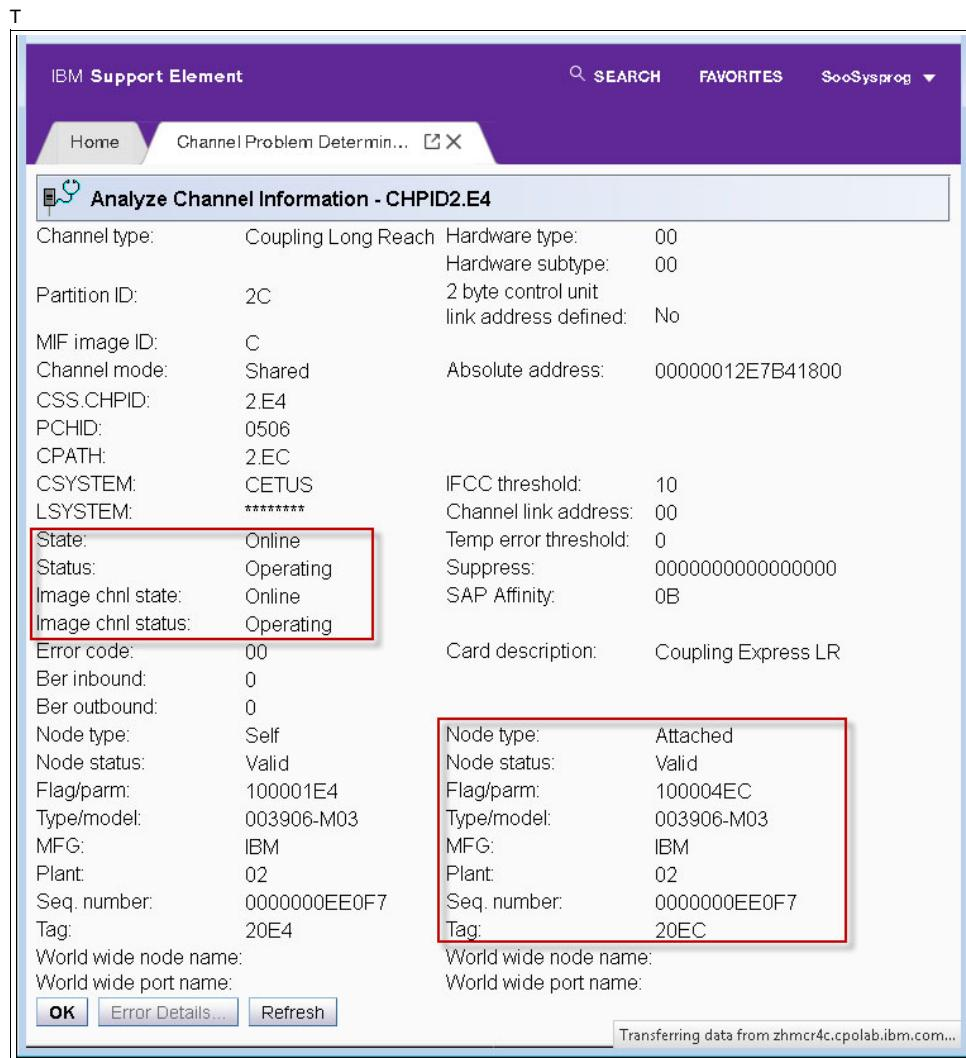

Figure 5-36 Channel Problem Determination: display
15. Things to observe are (Figure 5-36 on page 113):